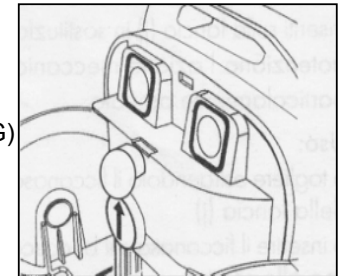

Fig. 13
- Remove the blower function cap. Fig. 13